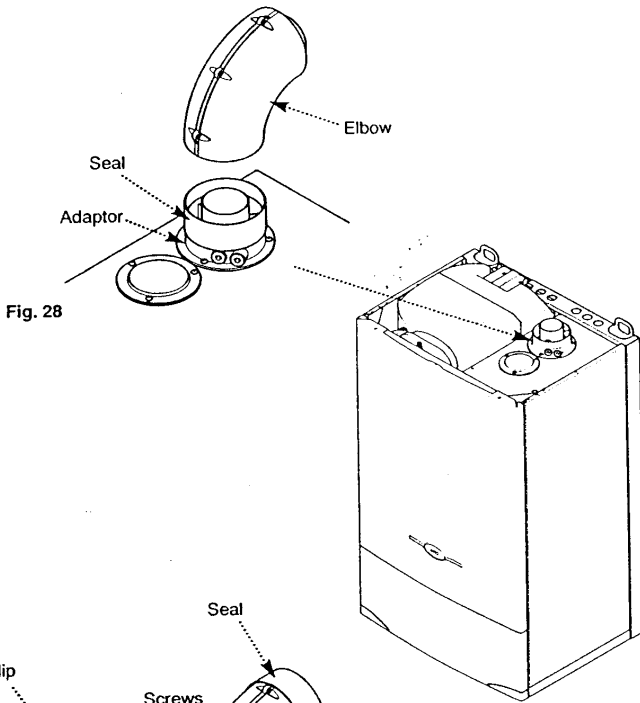

Fig. 28
13. Take one of the rubber seals and position it on the boiler flue adaptor. Engage the flue elbow on the adaptor and pull the sleeve up so that it equally covers the joint (Fig. 28).